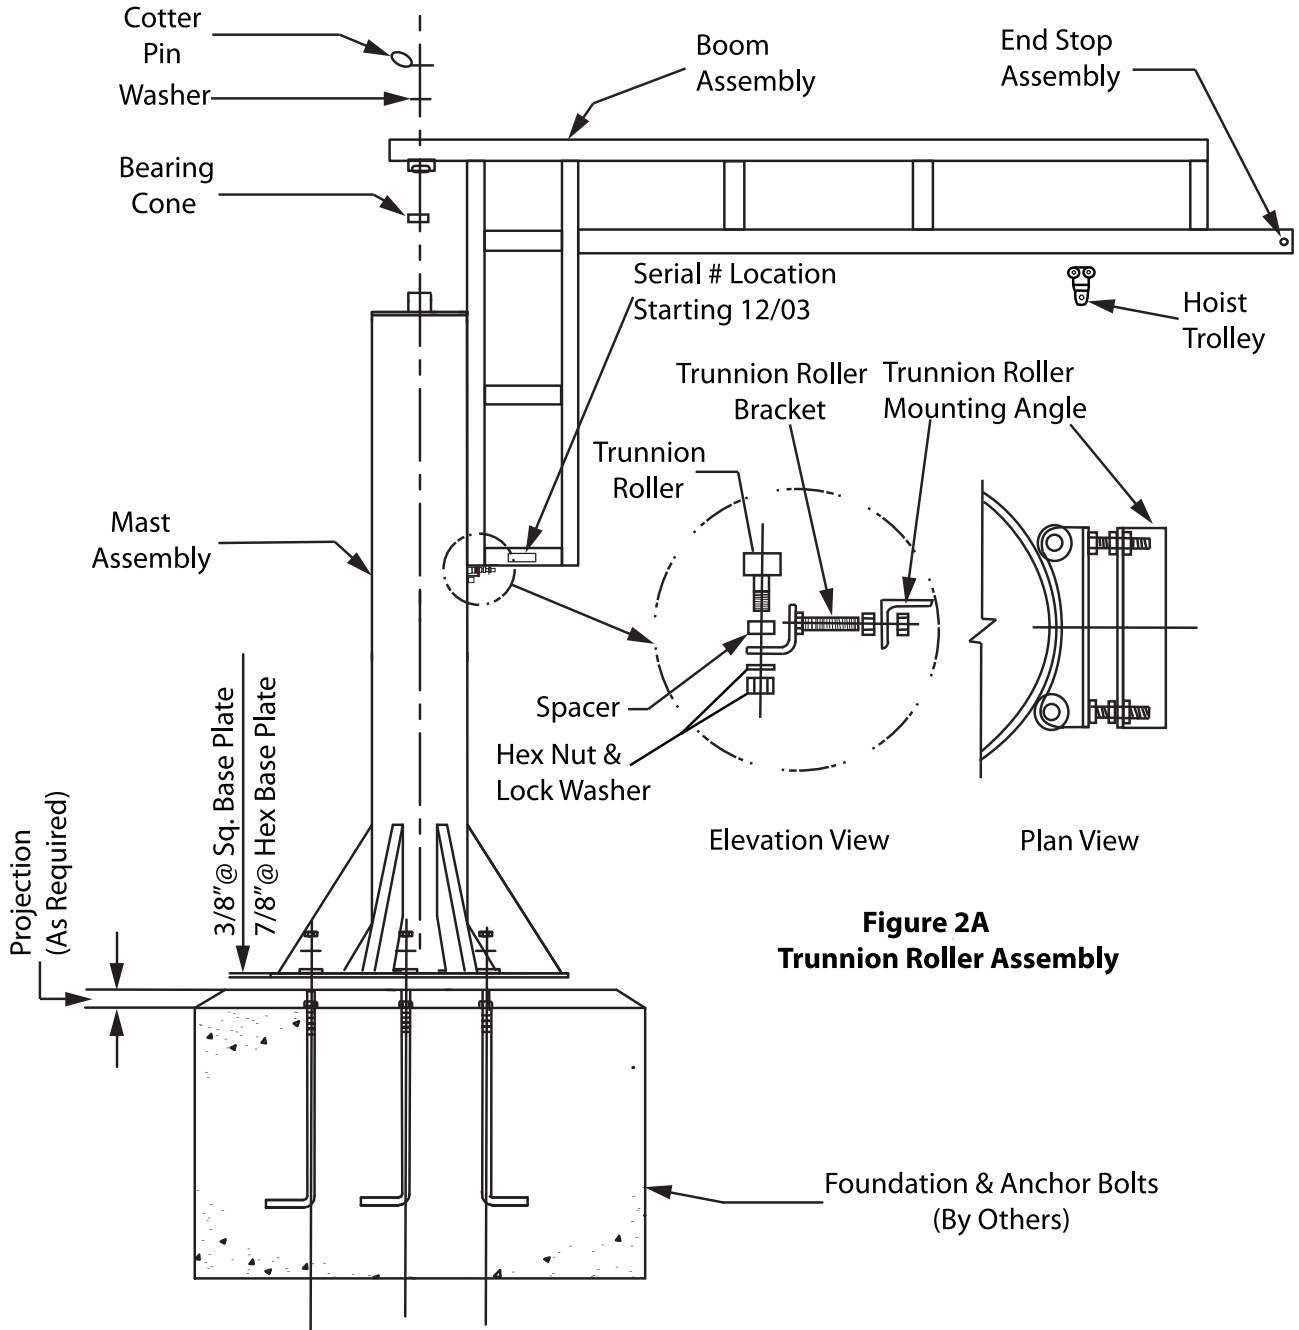

Figure 2A
2. Assemble the trunnion roller assembly as shown in **Figure 2A** and attach to mast assembly.